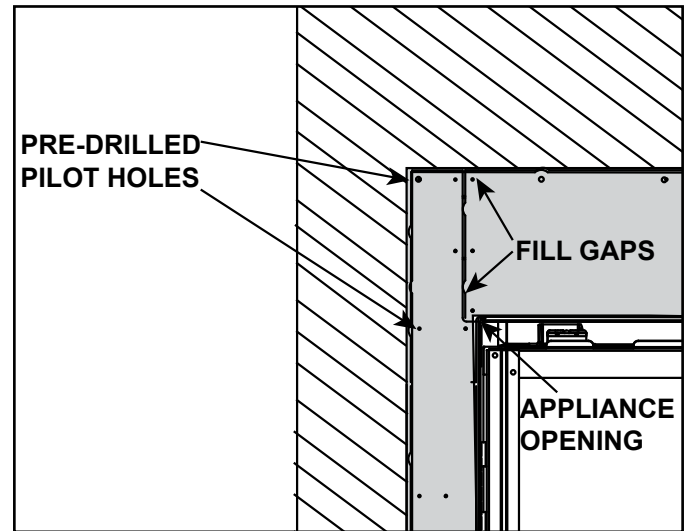

Figure 10.1 Install Non-Combustible Board
The factory-supplied non-combustible board must be used in all installations. It must be directly attached to structural framing adjacent to the appliance. Screw fasteners should be installed in the pilot holes provided in the outer perimeter of the non-combustible board. See Figure 10.1 and Figure 10.2.
3. The outer perimeter of the factory-installed non-combustible board has pre-drilled pilot holes. See Figure 10.1. Secure the non-combustible board to adjacent framing with drywall screws that are a minimum of 1-1/4 inch in length. Care should be taken not to tighten these screws into the non-combustible board excessively. Set screws flush to the face of the non-combustible board. See Figure 10.2 and Section 6.D.
4. When installing drywall around the appliance, install a rectangular hole for the fireplace/non-combustible board in a single sheet of drywall. This will minimize the joints that require finishing adjacent to the fireplace opening. Ensure that the 1/8 inch gap is maintained between the factory installed non-combustible board and the surrounding drywall. See Figure 10.1. Secure the drywall to the framing with screws a minimum of one inch in length every six inches across the top of the fireplace and every ten inches on the sides of the fireplace.
1. **Step 1:** Fill all gaps and joints between the non-combustible board pieces and the drywall with a general purpose chemically setting joint compound such as Durabond® 45 Joint Compound manufactured by USG (Sheetrock® brand), recommended by Hearth & Home Technologies. Use a drywall knife to firmly press the joint compound into all gaps. See Figure 10.1. Allow these joints to dry.